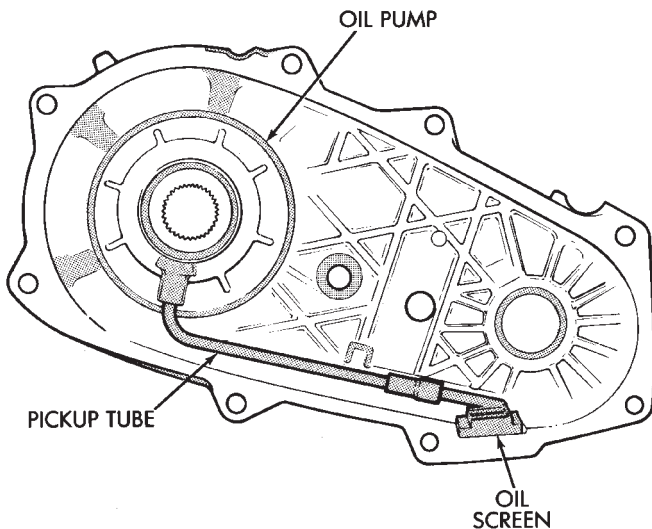

Fig. 7 Unseating Oil Screen
- (13) Slide oil screen (Fig. 7) out of case pocket.